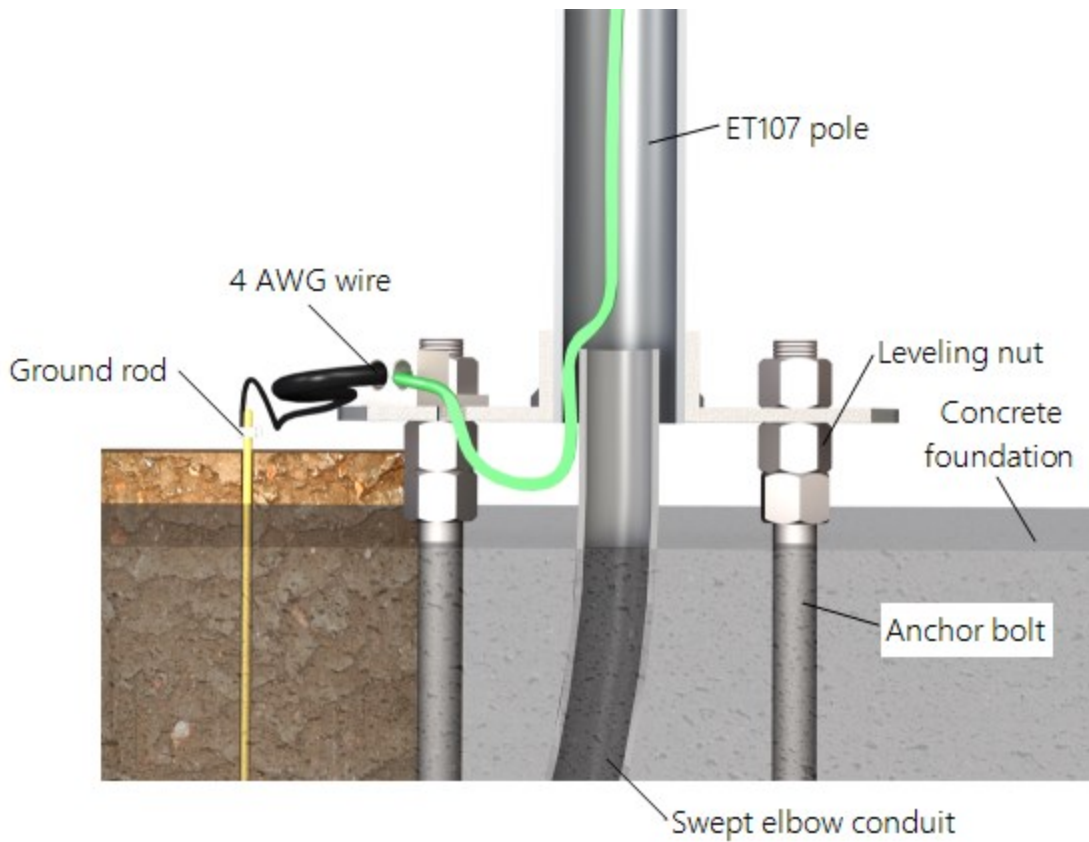
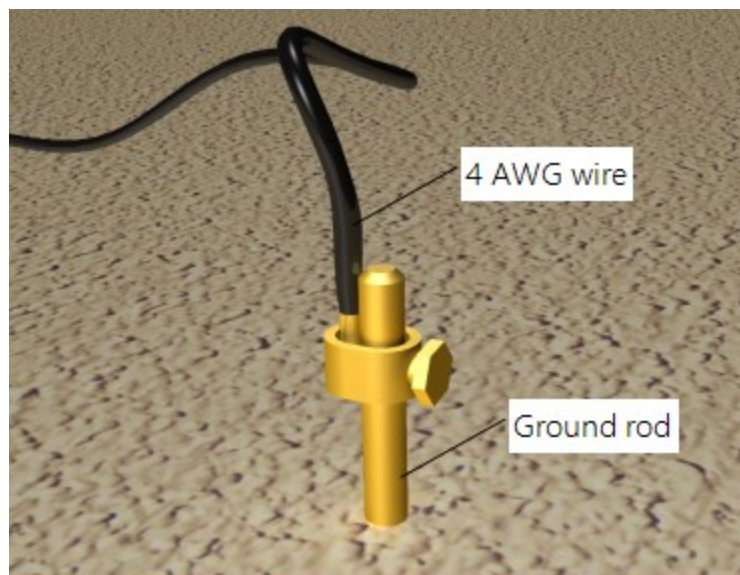

FIGURE 6-3. Transparent view shows raising and grounding the ET107 pole
FIGURE 6-4. Close-up of ground rod and 4 AWG cable
Use the following procedure to attach the pole to the base (FIGURE 6-3 (p. 15)).
Use the following procedure to ground the pole (FIGURE 6-3 (p. 15) and FIGURE 6-4 (p. 17)).
6. Tighten the set screw (FIGURE 6-4 (p. 17)).
7. Loosen the ground rod clamp. Insert the 4 AWG wire. Tighten the clamp (FIGURE 6-4 (p. 17)).